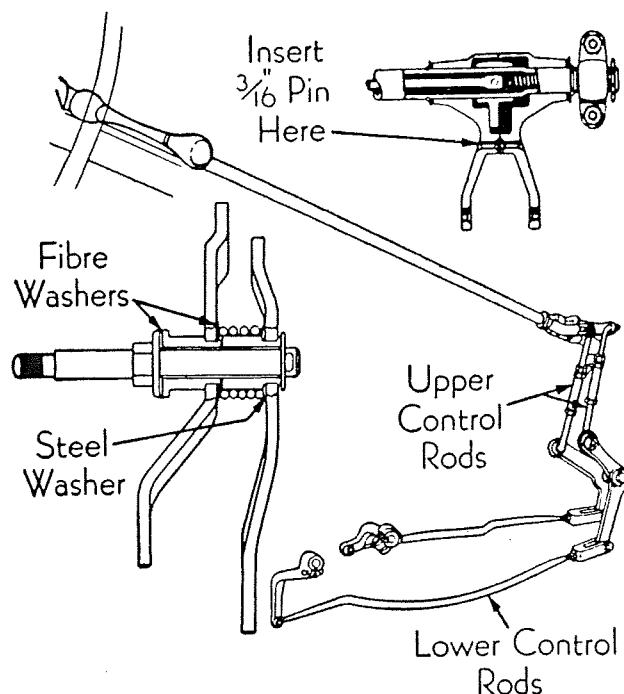

Fig. 31—Packard 1939-40. 1941-42 is Similar
1939-40: (See Fig. 31.) (1)—To adjust the linkage, insert a $\frac{3}{16}$ " aligning pin or drill rod through the aligning holes of both the column shaft levers. (2)—Set the hand control lever and the levers on the transmission in neutral and disconnect the upper and lower control rods. (3)—Adjust the length of the rods until they slip into place in their levers at the transmission without moving any of the levers from the neutral position.